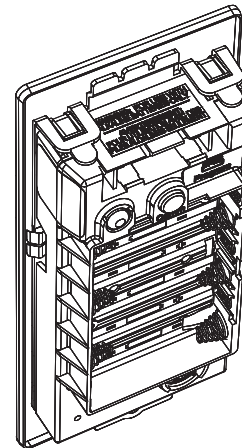

Fig. 24
- b. Ensure proper alignment of board-to-board connectors while pivoting controller toward door until two tabs on top snap securely into place on mounting plate. (Figure 24)